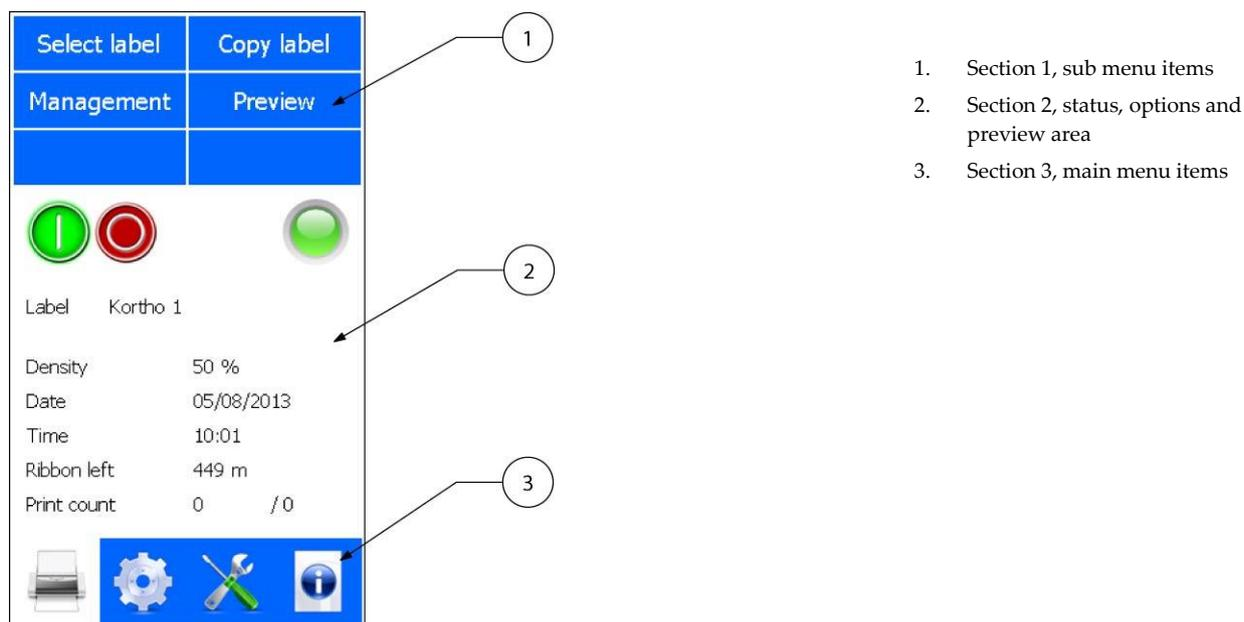

Fig. 3.1 Screen layout, main menu portrait
The screen is divided in three parts, see Fig. 3.1. Section 1 shows the submenus available when the printer icon is selected. When the other icons in section 3 are selected, different submenus will be shown. Section 2 is showing the status of the printer and the Start (I) \ Pause (O) button. Depending on the button selected in section 1 and 3 the content of this section will change.